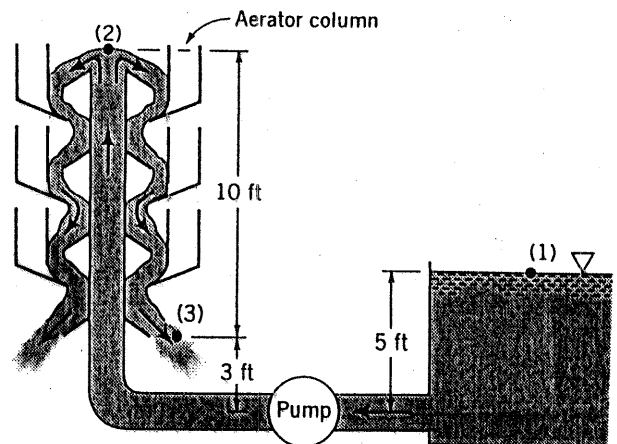

FIGURE P5.118
5.118 Water is pumped from a tank, point (1), to the top of a water plant aerator, point (2), as shown in Video V5.8 and Fig. P5.118 at a rate of  $3.0 \text{ ft}^3/\text{s}$ . (a) Determine the power that the pump adds to the water if the head loss from (1) to (2) where  $V_2 = 0$  is 4 ft. (b) Determine the head loss from (2) to the bottom of the aerator column, point (3), if the average velocity at (3) is  $V_3 = 2 \text{ ft/s}$ .